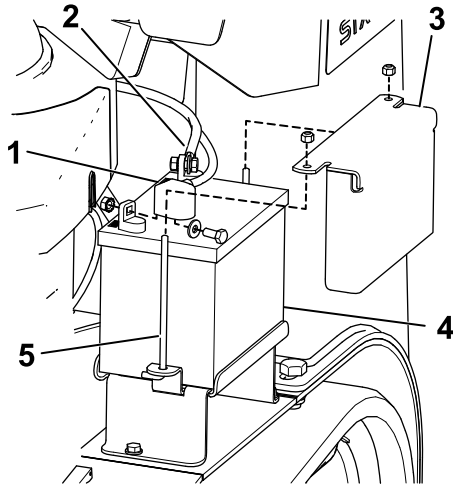

Figure 41
3. Lift the black rubber cover on the negative cable. Disconnect the negative battery cable from the negative (-) battery terminal (Figure 41).
4. Slide the red terminal boot off the positive (red) battery terminal. Then remove the positive (red) battery cable (Figure 41).
5. Remove the hold down plate, j-bolts, and locknuts securing the battery (Figure 41) and remove the battery.
1. Using the fasteners previously removed, install the positive (red) battery cable to the positive (+) battery terminal (Figure 41).
3. Using the fasteners previously removed, install the negative (black) battery cable to the negative (-) battery terminal (Figure 41).
4. Secure the battery using the bar and wing nuts (Figure 41).